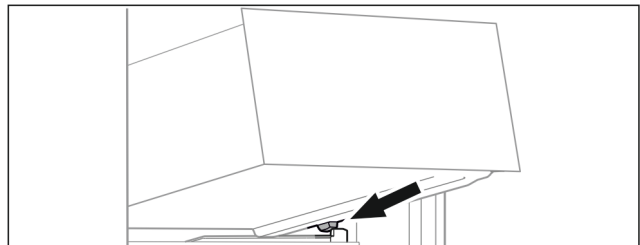

Fig. 57
▶ Place drawer at an angle behind the stoppers on the moulded rib. (see Fig. 57)